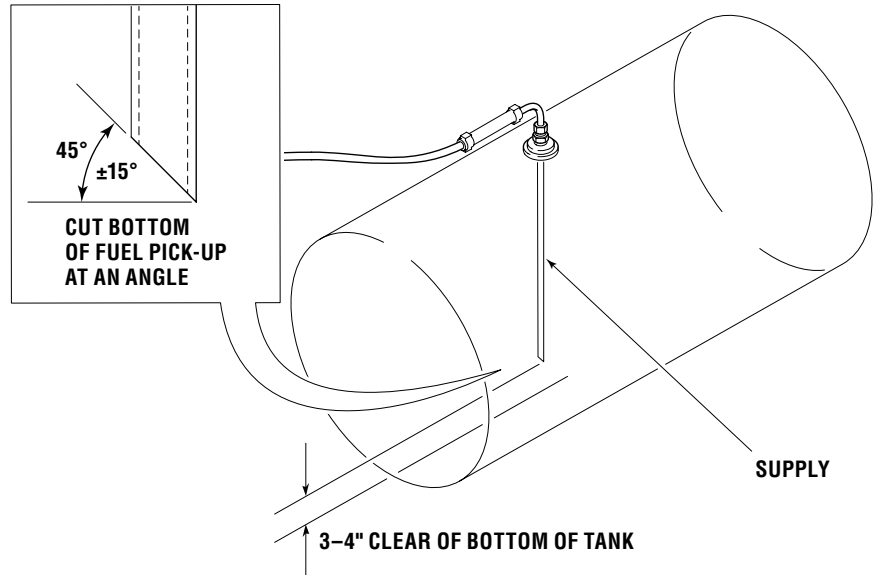

Figure 2-54. Fuel Pick-up Depth
1. Determine the depth of the fuel tank at the desired fuel pick-up location. Cut the fuel pick-up 3 to 4" shorter as shown in figure 2-54.